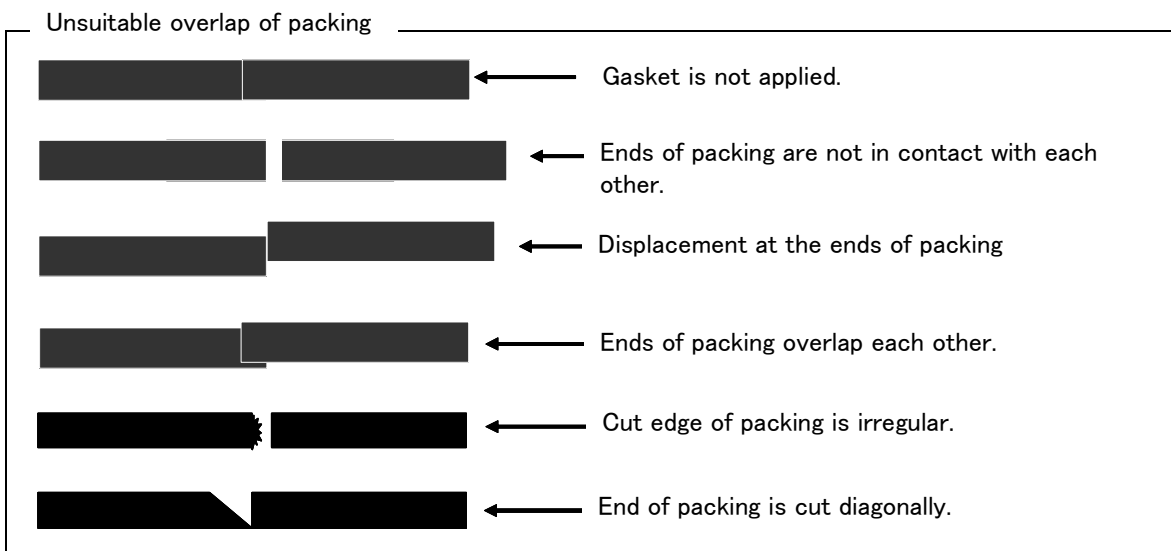

Fig.5-7 : Examples of packing overlaps
- 3) Although the No.2 arm cover (U) sticks two or more packings per place, it has length with which packing ends overlap. Stick packing in the following procedures. For more information, see "Fig.5-7 : Examples of packing overlaps". Examples of improperly treated cut edge are shown, as well.